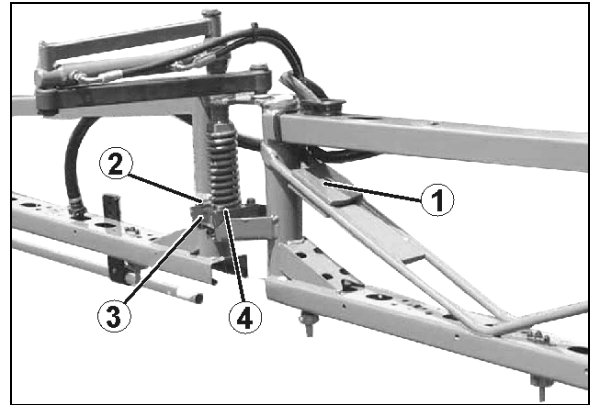

Fig. 180
If this is not the case, with the swing compensation **unlocked** align the folded-out sprayer boom by means of counterweights (Fig. 180/1). Secure the counterweights to the boom extension accordingly.
1. Release the lock nut of the adjusting screw (Fig. 180/1).
1. Release the screws (Fig. 180/2) of the securing link (Fig. 180/3). The boom is aligned directly at the plastic catch (Fig. 180/4) through the slotted holes of the securing link.
3. Tighten the screws (Fig. 180/2).